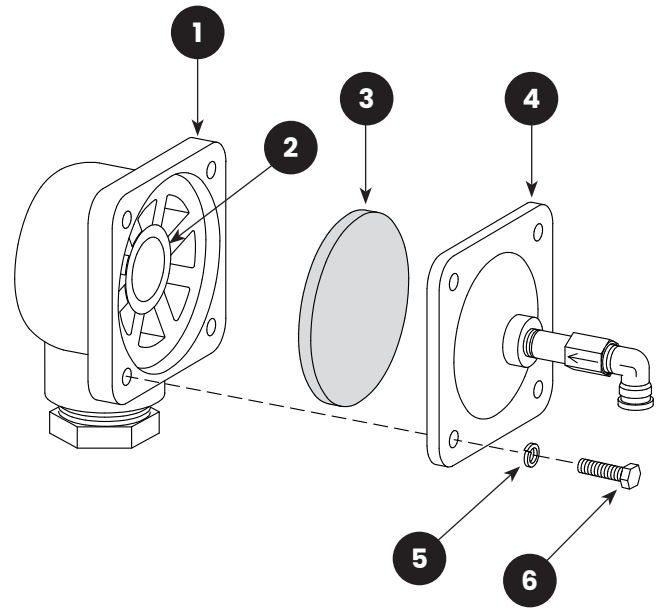

FIGURE 16: (1) Valve Body; (2) Seat; (3) Diaphragm; (4) Cap; (5) Lock Washer; (6) Cap Screw
7.8 | Diaphragm Outlet Valve – Figure 16